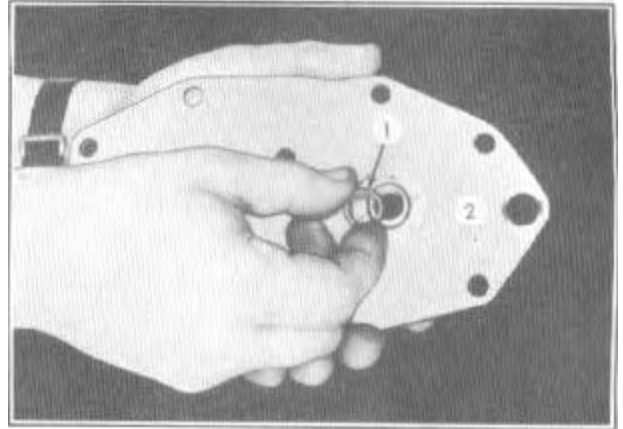

FIGURE 80
3. Lubricate the new "O" ring seals with Automatic Transmission Fluid and install the seals in the grooves in the cylinder plate, Figure 80.